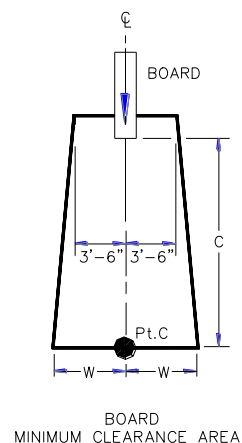

FIGURE 15
- A. The minimum clearance area in front of a properly installed diving board on an inground swimming pool is a minimum distance of three feet six inches (3'-6") (1067 mm) on either side of the board's centerline as shown in FIGURE 15. Pt. C extends a minimum distance of "C" from the tip end of the board as shown in FIGURE 15. The width distance "W" on either side of Pt. C is given in CHART 1 and shown in FIGURE 15.